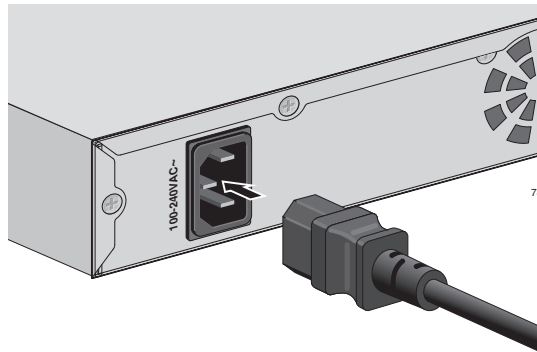

Figure 14. Connecting the AC Power Cord
1. Plug the power cord into the AC power connector on the back panel of the switch, as shown in Figure 14.